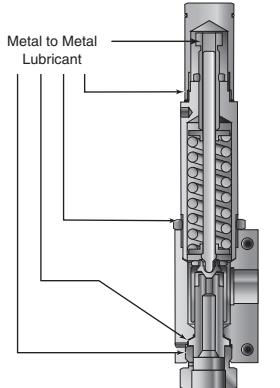

Figure 5
**5. Relief Valves** - Threads should be lubricated on the cap, spring cylinder, adjustment bolt and on the seat gland. Refer to Figure 5 for lubrication sites on the relief valve.